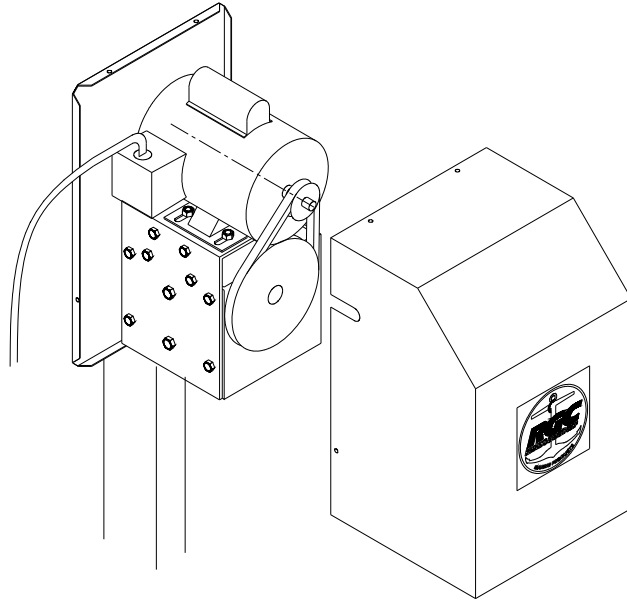

Figure 2-3.
1. Refer to Figure 2-3 and Hefty winch instructions. Screw on the motor to the winch frame. Using the hardware provided with the Hefty winch. Do not tighten bolts at this time.
4. Refer to figure 2-3. Install winch cover using screws provided with the Hefty winch.